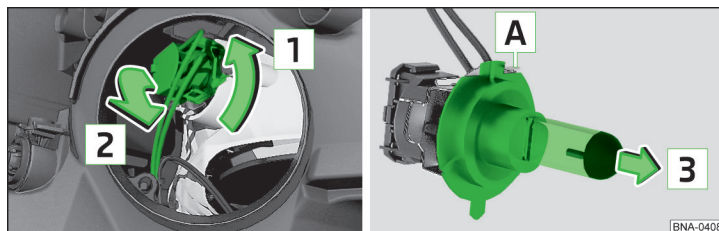

Fig. 111 Changing the bulb for the low beam
- › Turn the plug with the light bulb in the direction of arrow **1** and pull out in the direction of arrow **2** » fig. 111.